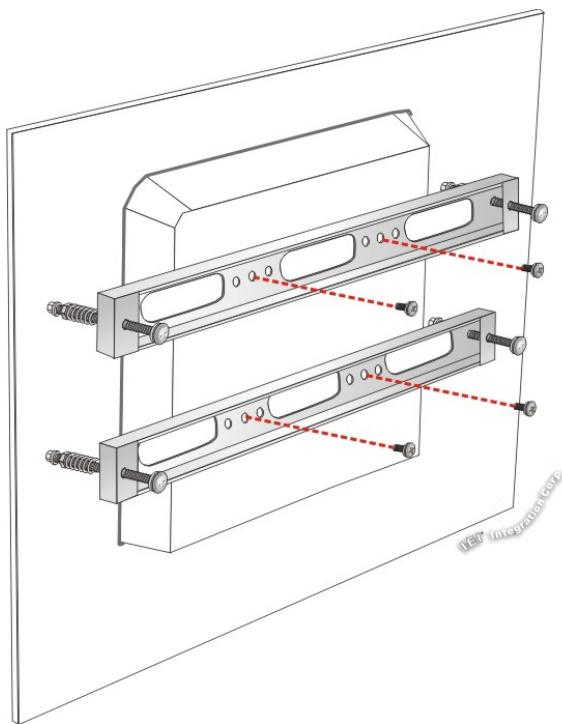

Figure 3-23: Securing Panel Mounting Brackets
Step 7: Secure the two panel mounting brackets to the rear of the panel PC by inserting the four retention screws into the VESA mounting holes and tightening them (Figure 3-23).